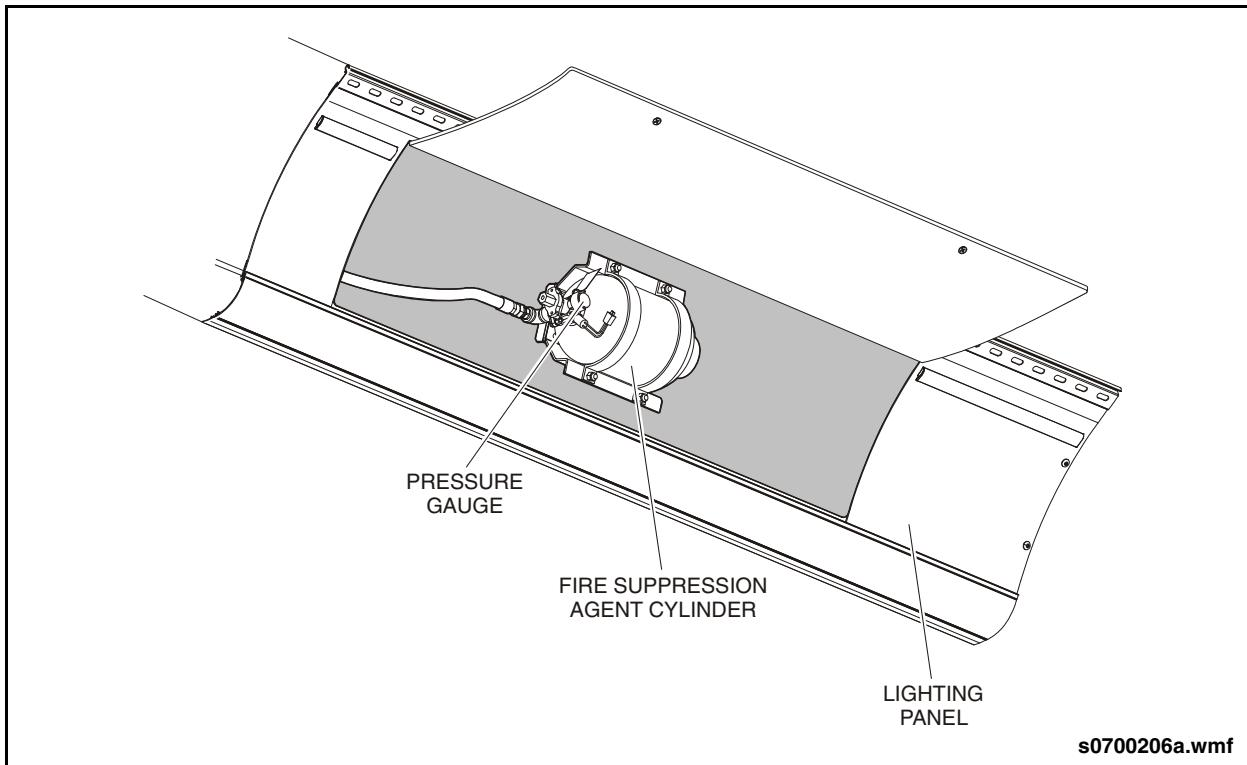

Fig. PM-2: Fire Suppression Cylinder Inspection
- Extinguisher pressure gauge pointer is in the green zone at room temperature. See "Fig. PM-2: Fire Suppression Cylinder Inspection" on page 21.